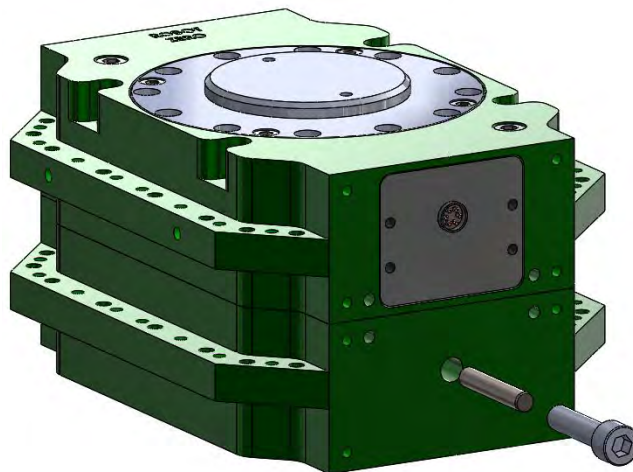

Figure 7.4-1. Manual Uncouple Feature
4. Insert an 8mm OD x 60mm long shaft followed by a M10x40mm long socket head cap screw in the hole located in the middle of Position 1 of the Tool Adaptor Housing as shown in Figure 7.4-1. This requires any tool side module on Position 1 to be removed.